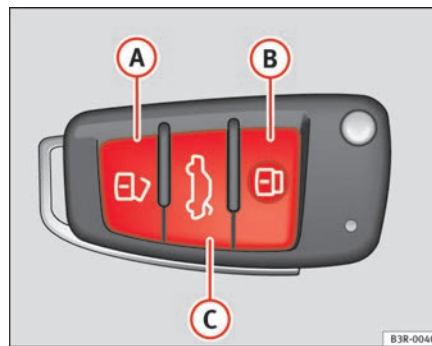

Fig. 76 Remote control key: Control buttons
- Press button **A** ⇒ **fig. 76** for about 1 second. ▶